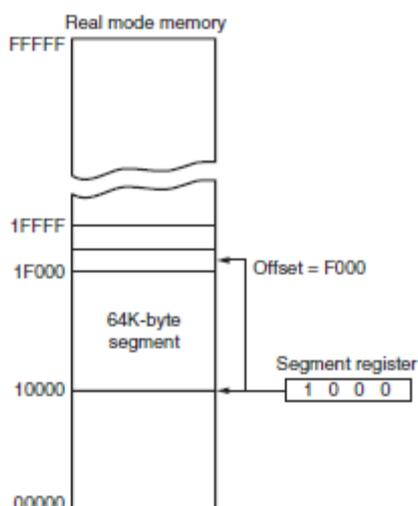

Figure 2-3: The real mode memory-addressing scheme using a segment address plus an offset
- In real mode, a combination of a segment-address and an offset-address accesses a memory-location(Figure 2-3).